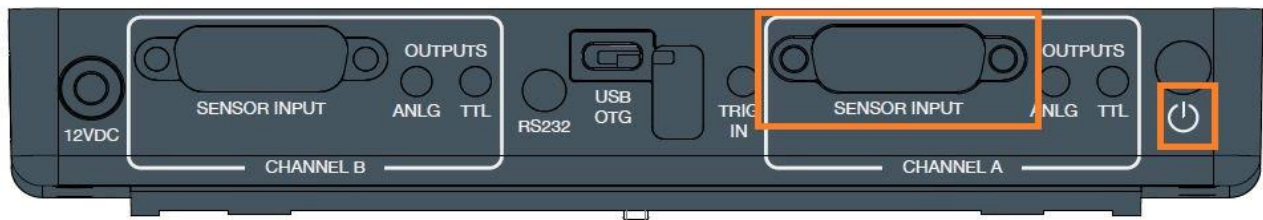

Figure 3-4 Centauri Upper Panel View Channel A sensor input and power button highlighted
The Sensor Input, located on either side of the Centauri upper panel, is the socket used to connect the 15-pin D-type connector of the measuring sensor cable to the meter, as shown in Figure 3-4 below.
- Briefly press the power button on the top of the meter and wait a few seconds for the measurement display screen to appear. See Figure 3-4 above.